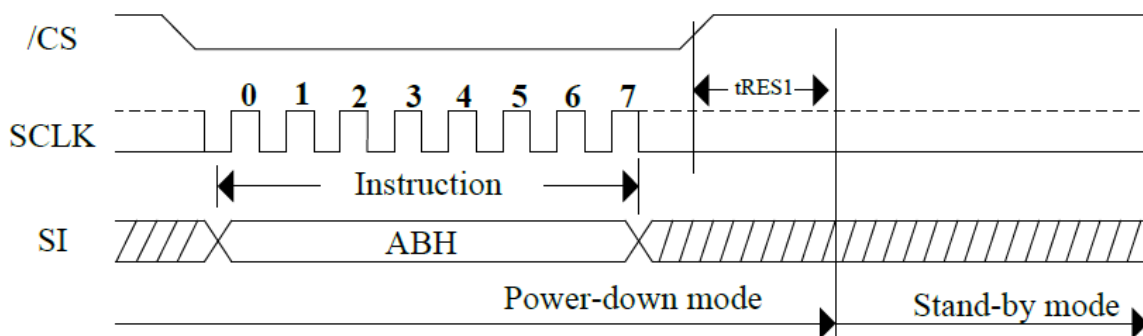

Figure 24. Release Power-Down Sequence Diagram
The Release from Power-Down or Device ID instruction is a multi-purpose instruction. It can be used to release the device from the Power-Down state or obtain the devices electronic identification (ID) number. See Figure 24, to release the device from the Power-Down state, the instruction is issued by driving the /CS pin low, shifting the instruction code “ABH” and driving /CS high. Release from Power-Down will take the time duration of  $t_{RES1}$  (See AC Characteristics) before the device will resume normal operation and other instruction are accepted. The /CS pin must remain high during the  $t_{RES1}$  time duration.